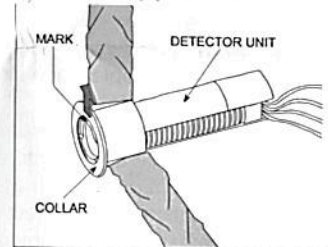

Figure 1 - Installation with Collar, Models SPY 1, SPY 2
2. Hold the detector unit by the sides. Carefully put the collar on the detector and adjust its position so that the front of the detector and the collar are aligned (Fig. 1).
5. Orient the detector unit so that the mark on the front faces up (Fig. 1).